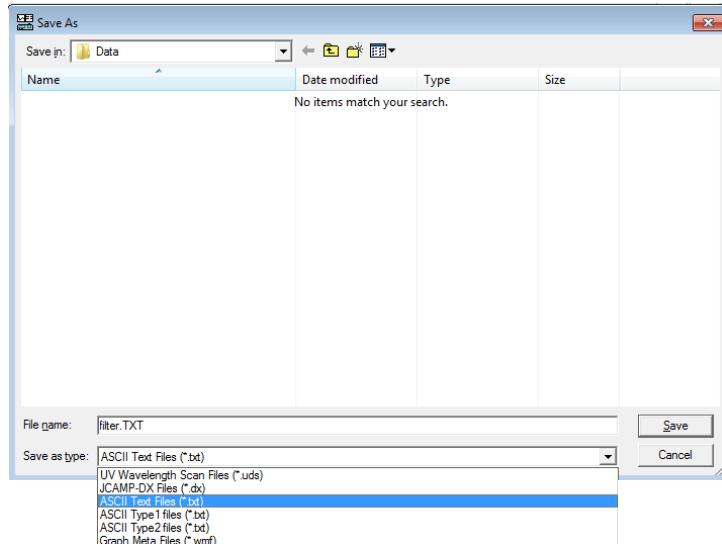

Fig. 5-48
- (1) Load a data file for text conversion and open the data processing window (refer to 5.1).
- (2) Click the Save As command in the File menu.
- (3) A dialog box as shown in Fig. 5-48 will open. Select either file below in the “Save as type” field.